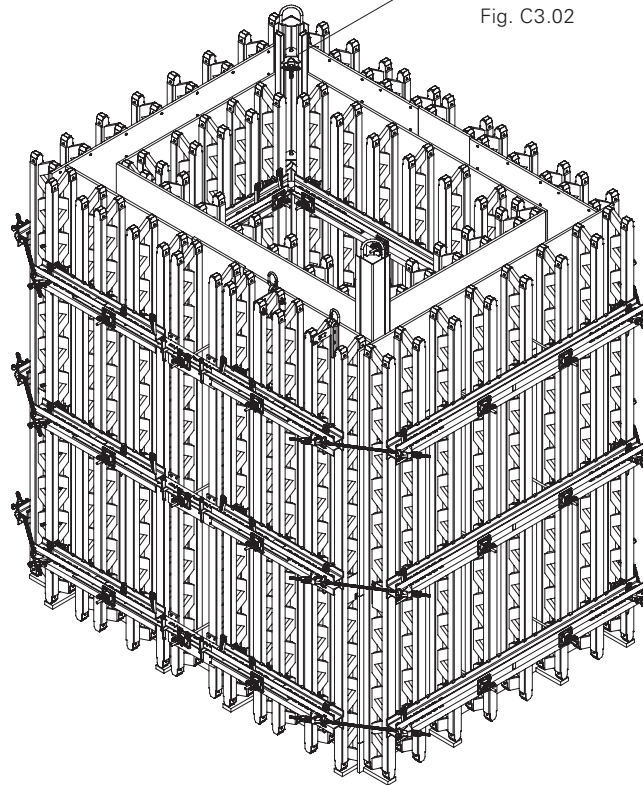

Fig. C3.01
3. Position external formwork, diagonally connect and anchor using tie yoke, tie rod, wingnut and KZ Wedge. (Fig. C3.01)